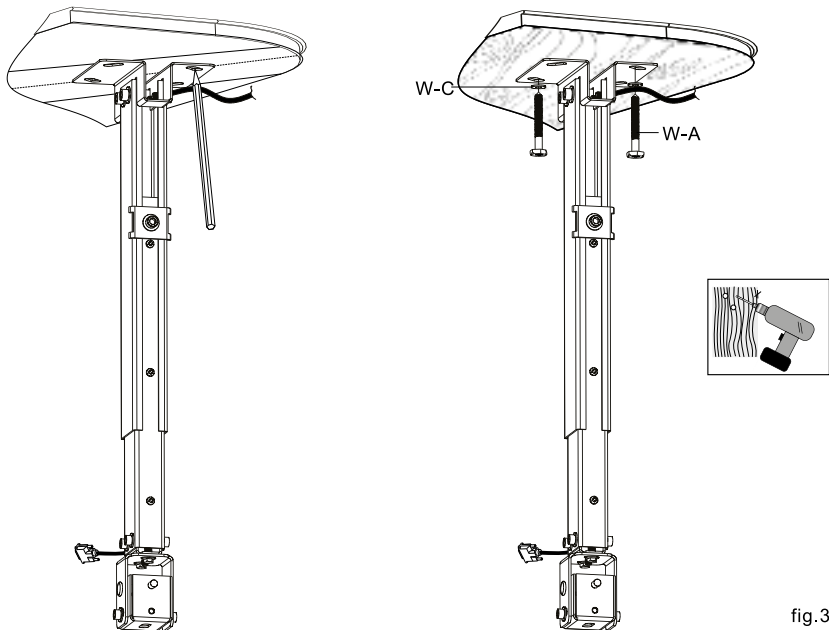

fig.3.1
- Drill two 1/8" (3mm) dia. Holes 1.2" (30mm) deep. Make sure that the ceiling plate is level, secure it using two lag bolts (W-A) as shown in fig. 3.1.